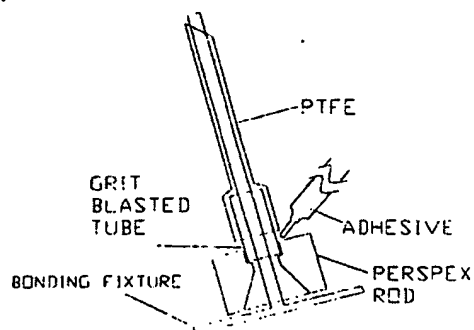

Fig 1.
- 6.1 Place the tube/PTFE assembly firmly into the stepped hole in the Perspex component ensuring that the tube has reached the bottom of the recess and place it into the loading mechanism bonding fixture (Fig 1. Below)
- 6.0 DELETE FIG 1. AND "PLACE INTO... FIXTURE"